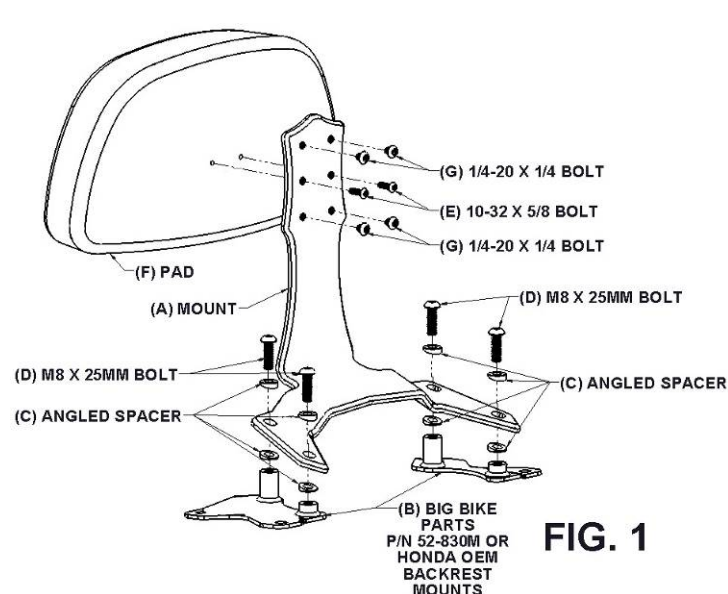
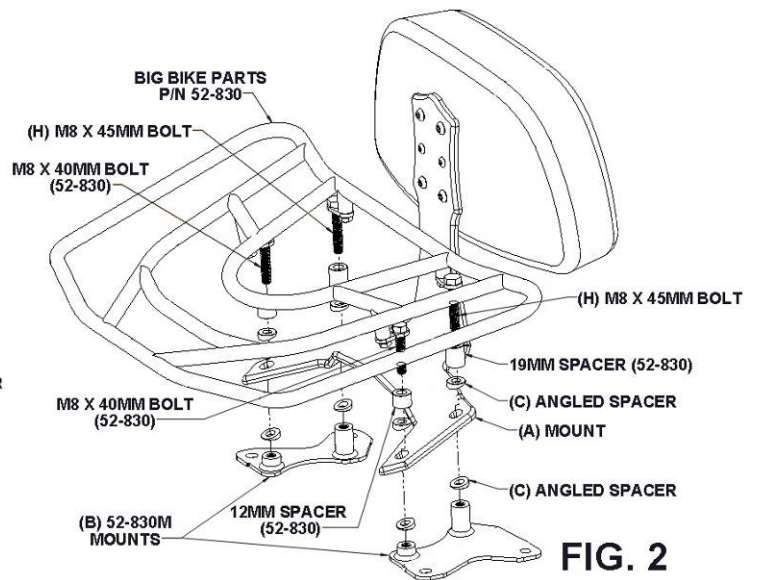

FIG. 1
FIG. 2
2. PLACE AN ANGLED SPACER (C) ON EACH OF THE MOUNTS AS SHOWN IN FIG. 1. THE FLAT SIDE OF THE SPACE FACES DOWN. TIP: USING A SMALL DROP OF THICK GREASE BETWEEN THE SPACER AND THE MOUNTING POINT WILL HELP HOLD THEM IN PLACE DURING ASSEMBLY.
3. PLACE A SMALL DROP OF THREAD LOCKING COMPOUND ON THE FOUR M8 X 25MM BOLTS (D) INCLUDED IN THE KIT.
4. HOLDING MOUNT (A) IN ONE HAND PLACE A M8 X 25MM (D) BOLT AND ANGLED SPACER (C) IN EACH SLOT WITH THE FLAT SIDE OF THE SPACERS FACING UP.
7. ATTACH THE PAD (F) TO THE MOUNT (A) USING THE TWO 10-32 X 5/8" BOLTS INCLUDED IN THE KIT. THE PAD CAN BE MOUNTED IN THREE DIFFERENT POSITIONS. FIG.1 SHOWS IT BEING MOUNTED IN THE MIDDLE POSITION.
8. USE THE FOUR ¼-20 X 1/4 BOLTS (G) SUPPLIED TO PLUG THE FOUR MOUNTING HOLES THAT ARE NOT BEING USED. (SEE FIG.1)
3. PLACE A SMALL DROP OF THREAD LOCKING COMPOUND ON THE TWO M8 X 45MM BOLTS (H) INCLUDED IN THIS KIT AND ON THE TWO M8 X 40MM BOLTS INCLUDED WITH THE 52-830 TOUR RACK.
4. ASSEMBLE TOGETHER AS SHOWN IN FIG. 2 WITH THE M8 X 45MM BOLTS IN THE FRONT MOUNTING HOLES AND THE M8 X 40MM BOLTS IN THE BACK HOLES.
6. ATTACH THE PAD (F) TO THE MOUNT (A) USING THE TWO 10-32 X 5/8" BOLTS INCLUDED IN THE KIT. THE PAD CAN BE MOUNTED IN THREE DIFFERENT POSITIONS. FIG.1 SHOWS IT BEING MOUNTED IN THE MIDDLE POSITION.
7. USE THE FOUR ¼-20 X 1/4 BOLTS (G) SUPPLIED TO PLUG THE FOUR MOUNTING HOLES THAT ARE NOT BEING USED. (SEE FIG.1)